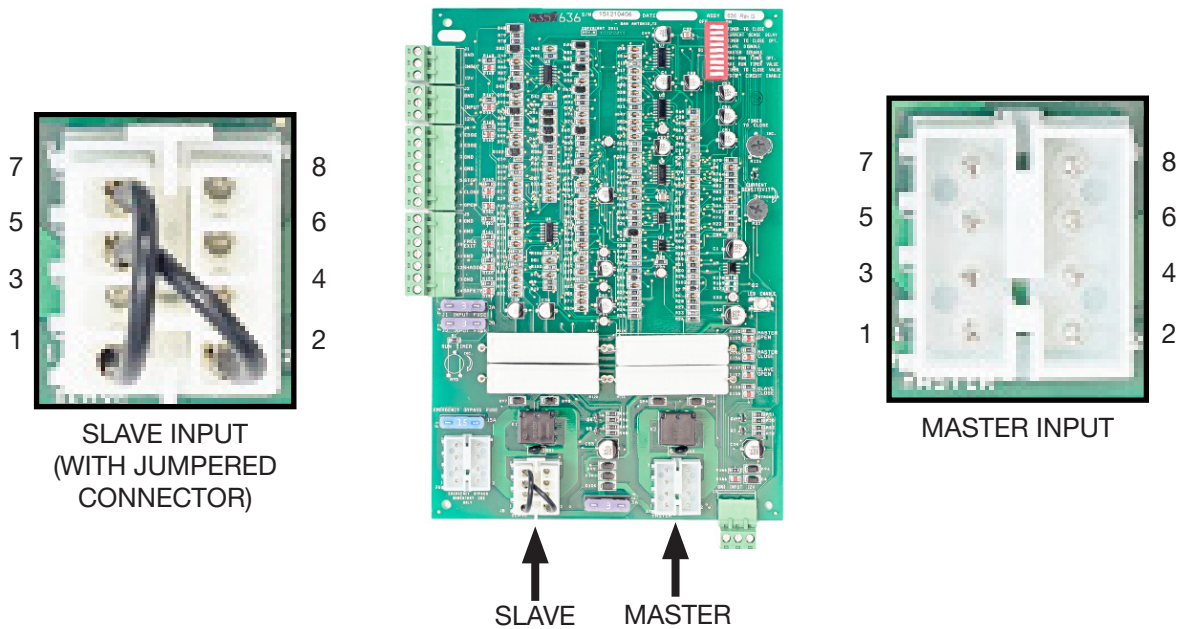

FIGURE 8-1: ACTUATOR CONNECTORS
For a single gate system, the unused SLAVE connector is populated by a connector with jumpers (FIGURE 8-1).
NOTE: The unused SLAVE connector is populated with jumpered connector for single gate system, as shown in FIGURE 8-1. This jumpered connector is removed if the SLAVE connector is used for a second actuator.
1. Locate the MASTER and SLAVE input connectors on the 636 control board per FIGURE 8-1.